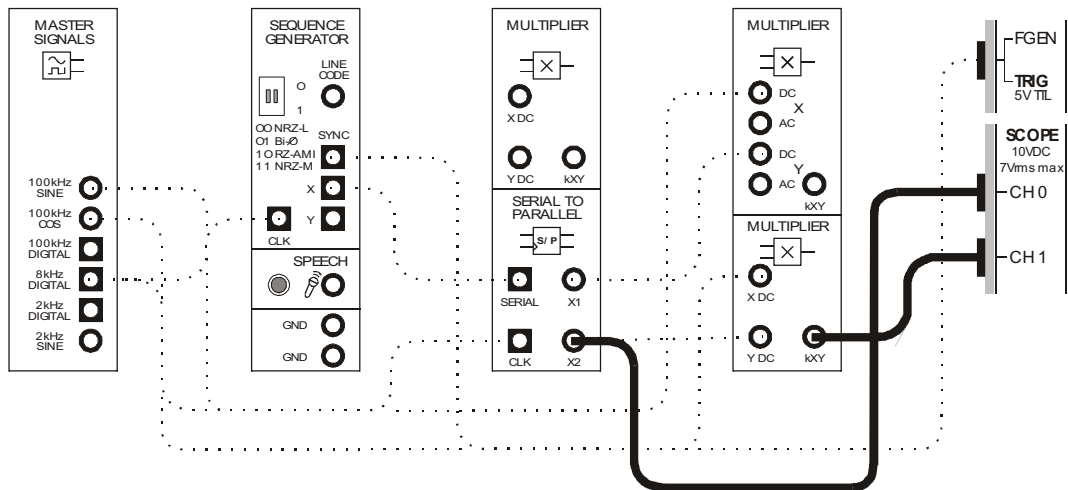

Figure 7
20. Move the scope's connections as shown in Figure 7 below.